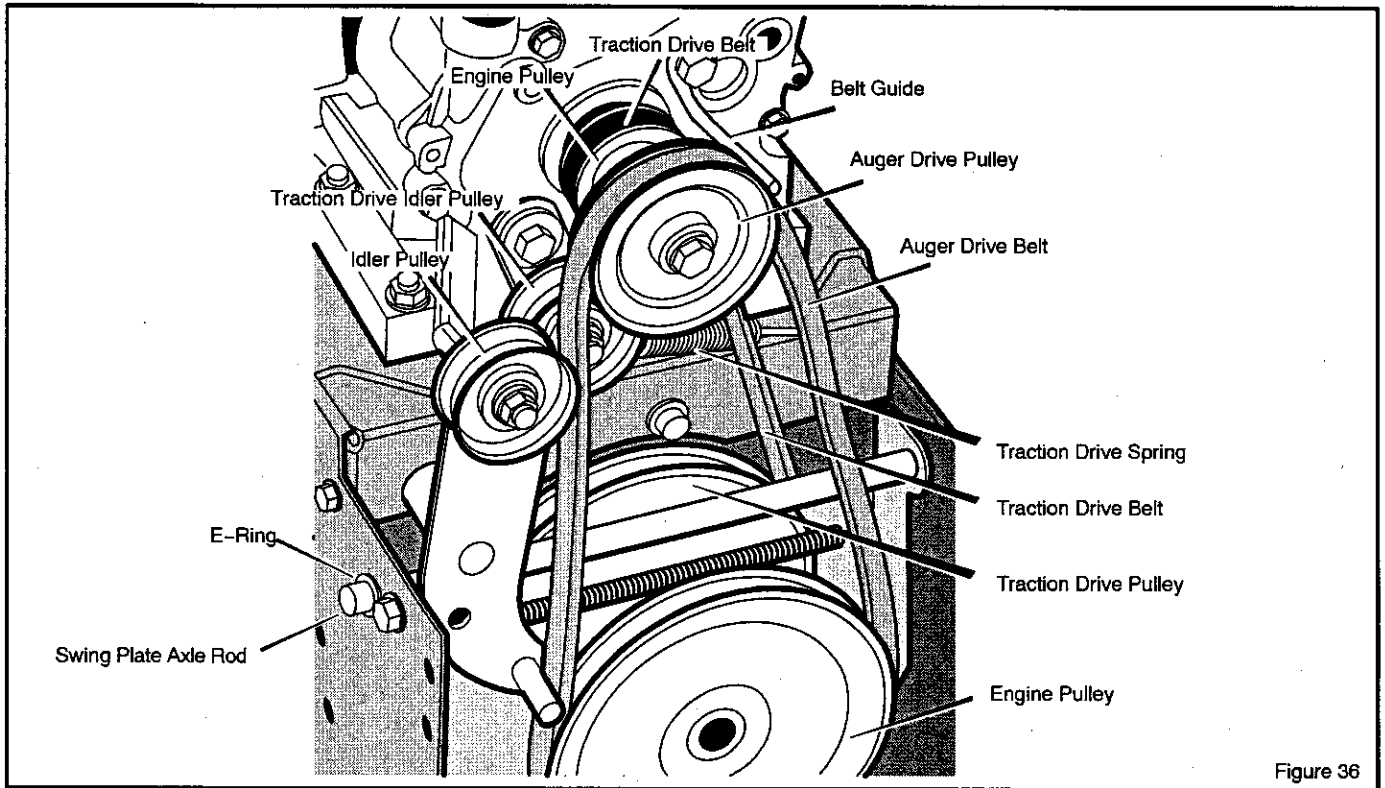

Figure 36
3. Loosen nut on auger idler pulley and move auger idler pulley towards belt about 1/8 inch (3 mm) (see Figure 36).
5. Loosen the **belt guide**. Pull the **belt guide** away from the **auger drive pulley** (see Figure 36).
9. Remove the old **auger drive belt** from the **auger drive pulley**. Replace the **auger drive belt** with an original factory replacement belt available from an authorized service center (see Figure 36).
3. Remove the **e-ring** from one end of the **swing plate axle rod**. Remove the **swing plate axle rod** to allow the the swing plate to pivot forward (see Figure 36).